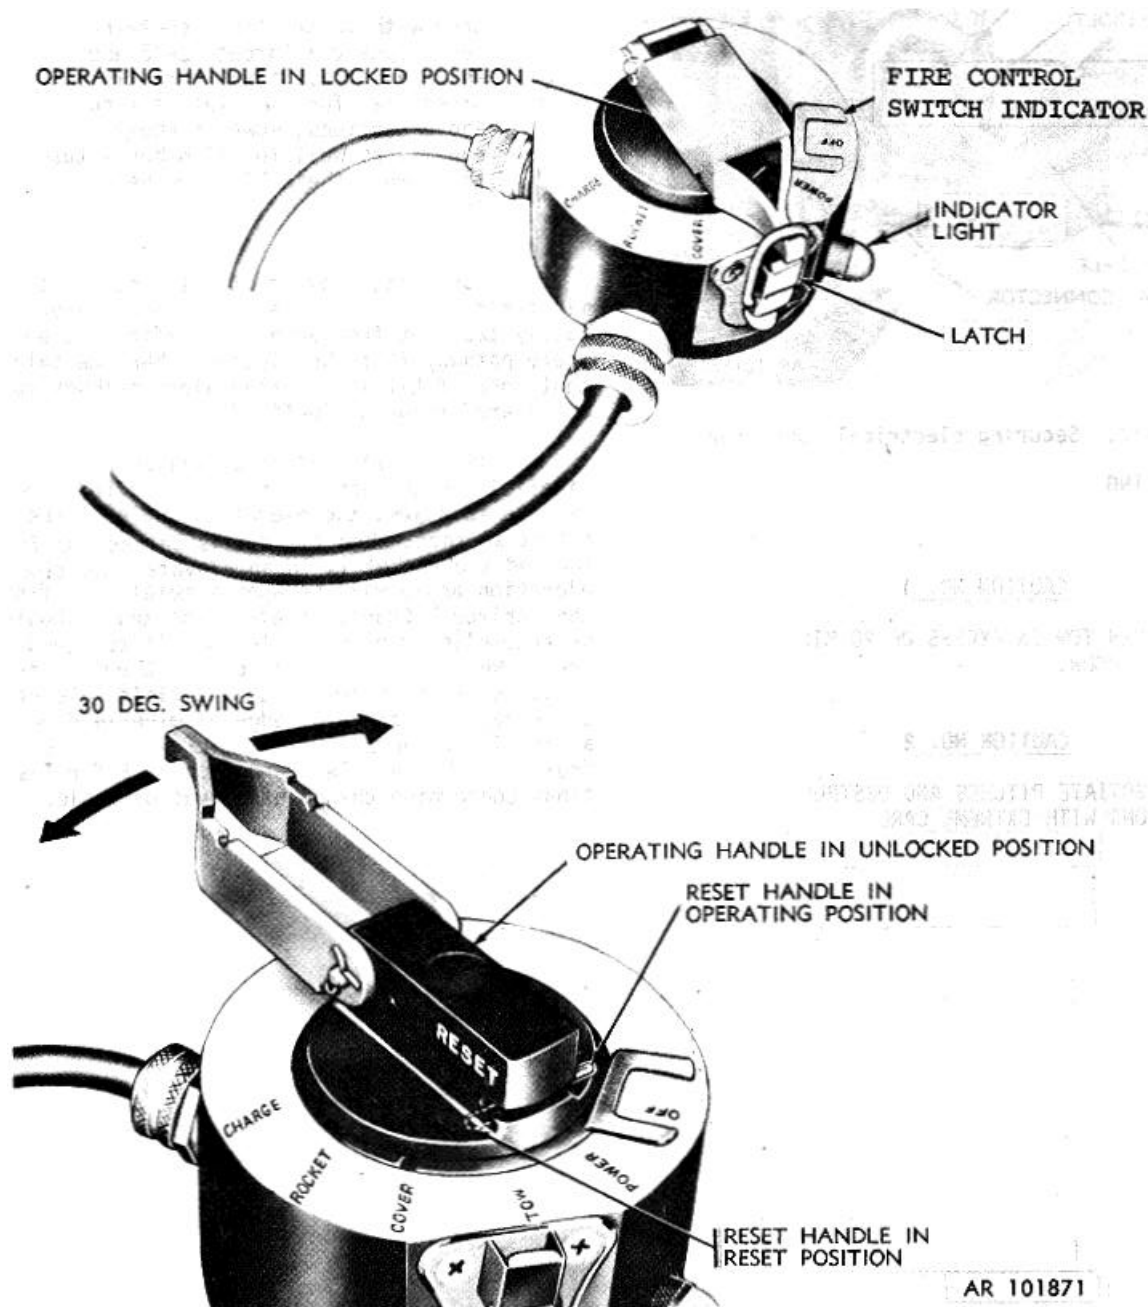

Figure 2-41. Firing control switch.
c. If reset handle of firing control switch (fig. 2-41) is not in operating position. lift it up and move to operating position.
**MAKE CERTAIN FIRING CONTROL SWITCH INDICATOR IS AT OFF POSITION AND THAT RESET HANDLE IS IN OPERATING POSITION (FIG. 2-41) BEFORE CONNECTING TO POWER SUPPLY. IF INDICATOR AND RESET HANDLE ARE NOT IN PROPER POSITION, MOVE RESET HANDLE TO RESET POSITION AND RATCHET SWITCH BACK AND FOURTH TO OFF POSITION. THEN REPLACE RESET HANDLE IN OPERATING POSITION BEFORE CONNECTING TO POWER SUPPLY.**
Open latch on firing control switch and open operating handle to its unlocked position (fig. 2-41). Make sure reset handle is in its operating position.